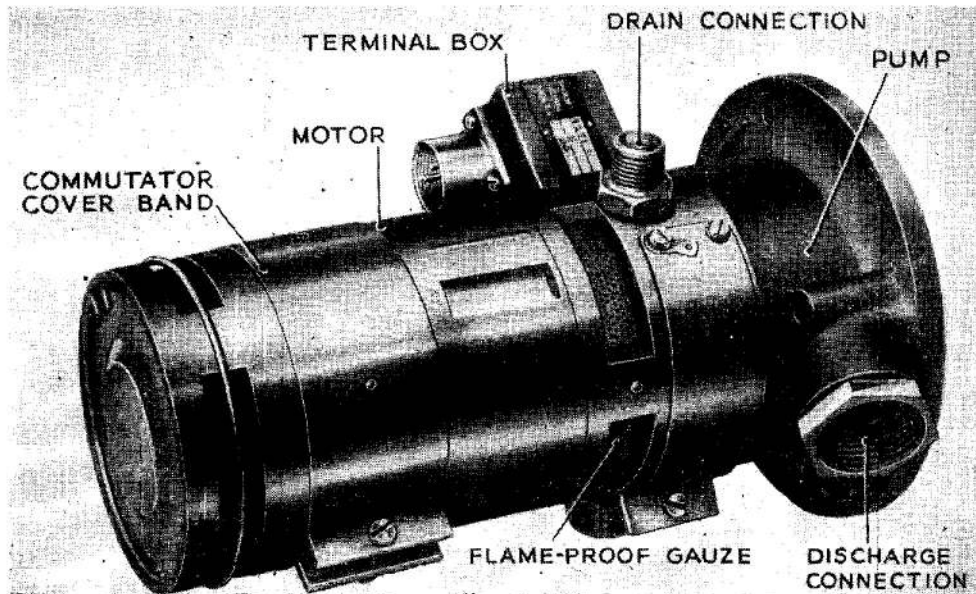

Fig. 1. General view of methanol/water injection pump, FB4, Mk. 1
3. The pump casing (*fig. 1*) is a light alloy casting with a suction mounting flange at one end, pierced with light holes, for bolting the pump direct to the wall of the fuel tank. The angular discharge connection embodied in this casing is fitted, with a  $\frac{3}{4}$  in. B.S.P./A.G.S. coupling, tightened against a fibre washer, and locked in position, after installation, with 18 to 22 s.w.g. non-corrodible iron locking wire. The inlet of the impeller projects to accommodate a suction cover. A cork joint is fitted between the cover and the pump casing, the whole being secured by the six nuts and washers holding the pump casing to the motor. A breathing aperture in the side of the case is covered with a fine mesh grid.